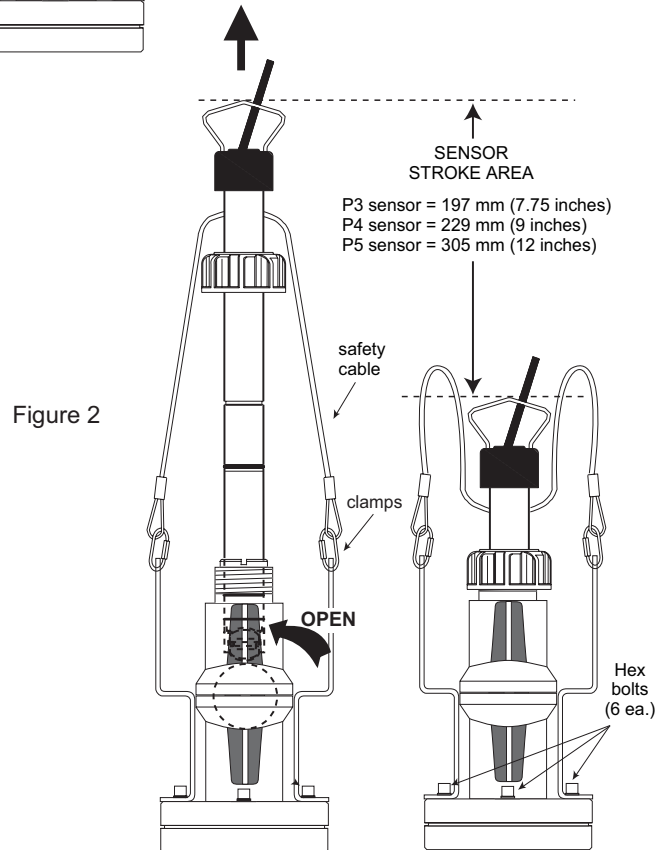

Figure 2
4. Pull the flow sensor upward to remove slack in the safety cables. (Figure 2)
5. Open the ball valve. (Figure 2).
Check the six (6) Hex bolts (Figure 2) prior to unscrewing the sensor cap. **If bolts are loose, tighten securely before proceeding.**
2. Carefully pull the flow sensor upward with a twisting motion until the safety lanyards are fully extended. (Figure 2)